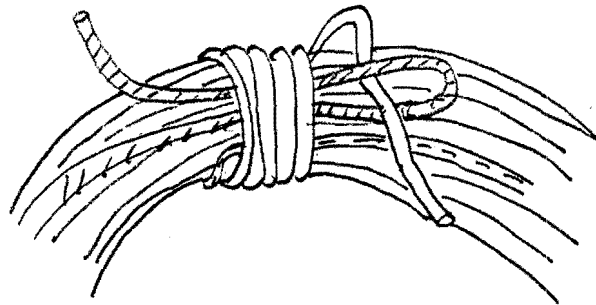

Figure 3.4. Rope Coil Tieoff.
d) Tying off a Coil. A coiled rope will come apart and become tangled unless it is properly tied off. Dissyncretic tieoffs are discouraged since it is easy to tangle a rope by undoing the tieoff improperly. The accepted method is shown in figure 3.4. First, one end of the rope is folded back on itself to make a loop. Then, the other end is wrapped around the coil and the loop, starting at the open end, continuing five or six